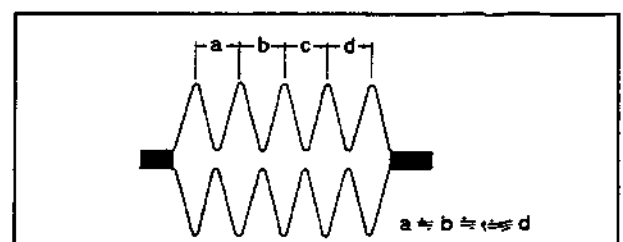

Fig. 42
4-5. CUE AND REV WAVEFORM CHECK (Fig. 42)
- 1) Play back the alignment tape for tracking adjustment and set the REV mode. Confirm that waveform peaks maintain a constant pitch of 5 seconds or more (Fig. 42). In case pitch is not constant, perform section 4-2. Tracking Fine Adjustment and section 4-4. No.7 Guide Adjustment.
- 2) Set the CUE mode. Confirm that waveform peaks still maintain a constant pitch of 5 seconds or more (Fig.42). Otherwise, perform section 4-2 Tracking Fine Adjustment.